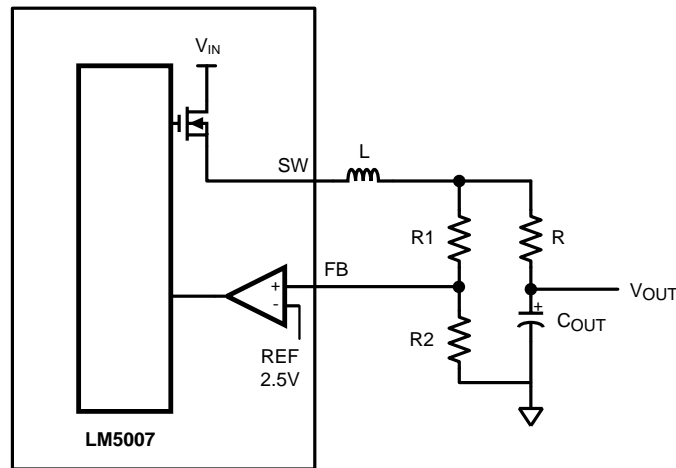

Figure 4. Low Ripple Output Configuration
The output voltage ( $V_{OUT}$ ) can be programmed by two external resistors as shown in Figure 4. The regulation point can be calculated as follows:
For applications where lower output voltage ripple is required the load can be connected directly to the low ESR output capacitor, as shown in Figure 4. The series resistor (R) will degrade the load regulation. Another technique for enhancing the ripple voltage at the FB pin is to place a capacitor in parallel with the feedback divider resistor R1. The addition of the capacitor reduces the attenuation of the ripple voltage from the feedback divider